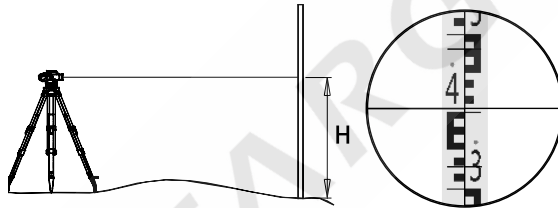

Fig. 5
- Read data as shown in fig. 5, $H = 1.403\text{m}$